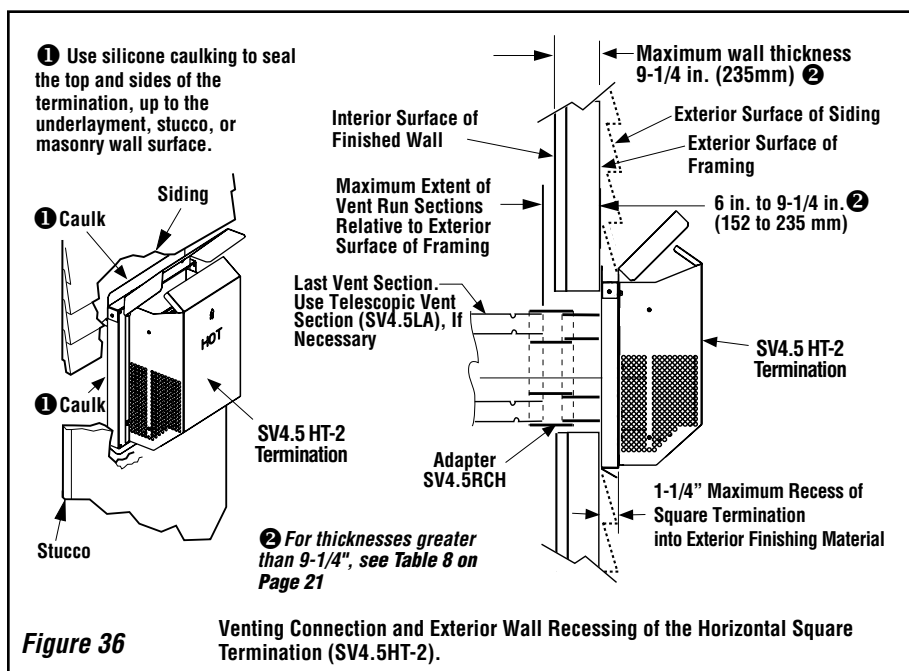

Figure 36
J. Assemble vent run to exterior wall - If not previously measured, locate the center of the vent at the exterior wall. Prepare an opening as described in **Step B**. Assemble the vent system to point where the terminus of the last section is located relative to the exterior surface to which the termination is to be attached as shown in **Figure 36 and Table 8 on Page 21**.
If the terminus of the last section is not within this distance, use the **telescopic vent section SV4.5LA**, as the last vent section. For wall thicknesses greater than that shown in **Figure 36**, refer to **Table 8 on Page 21**. This Table lists the additional venting components needed (in addition to the termination and adapter) for a particular range of wall thicknesses.
For the last step, from outside the exterior wall, slide the collars of the termination onto the adapter (the outer inside the outer and the inner outside the inner) until the termination seats against the exterior wall surface to which it will be attached. Orient the housing of the termination with the arrow pointed upwards. Secure the termination to the exterior wall. **The horizontal termination must not be recessed into the exterior wall or siding** by more than the 1-1/4" (32 mm) as shown in **Figure 36**.
Table 8 Note: See Figure 36 showing wall thickness range when using SV4.5HT-2 termination kit only.